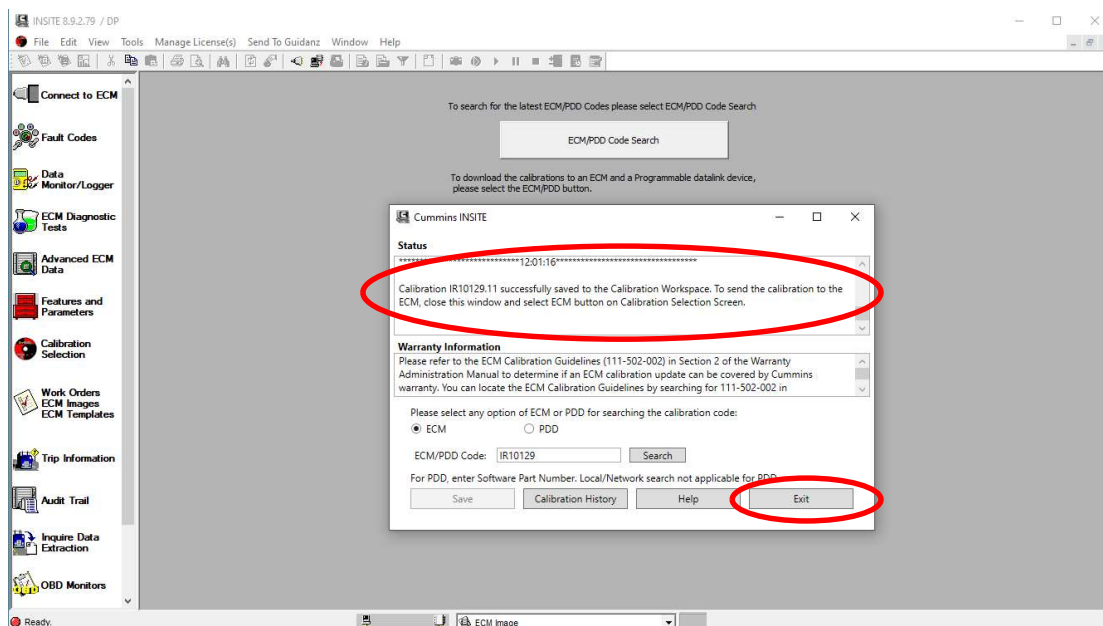

Figure 22
31. Confirmation the file was successfully saved to the laptop. Select Exit. See figure 22